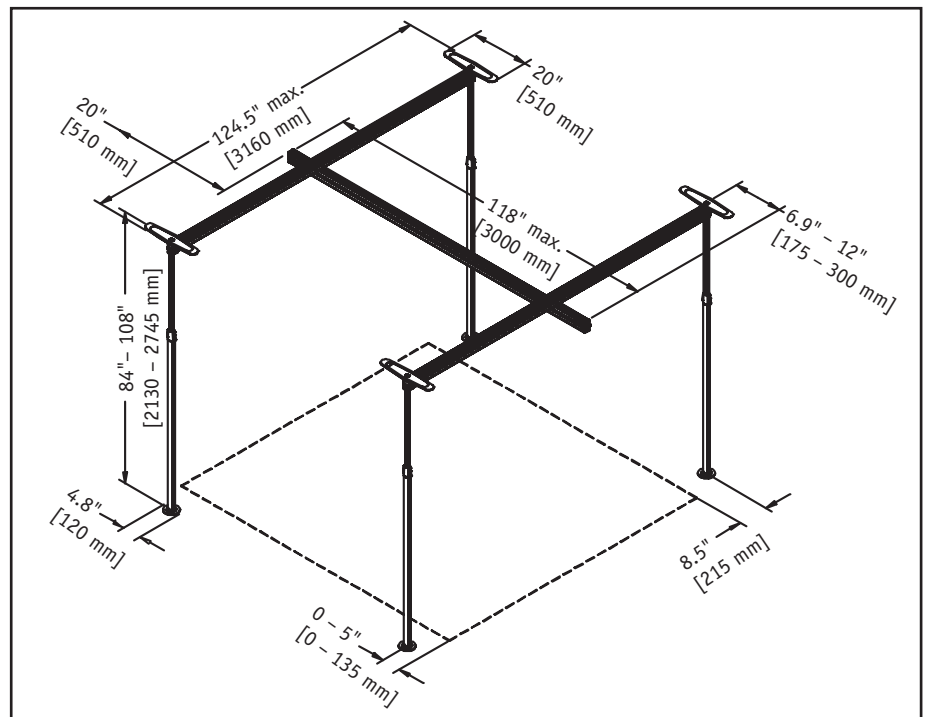

Figure 3
- d. Transfers should only take place between the Easytrack System posts (Figure 3).
- Decide where you will place your 4-Post Easytrack System. Before you make your decision, make sure you will have enough room to install the Easytrack System (see Figure 3).
CAUTION- Make sure you measure carefully (see Figure 3 for dimensions).
NOTE– Make sure you measure carefully (see Figure 3 for dimensions).